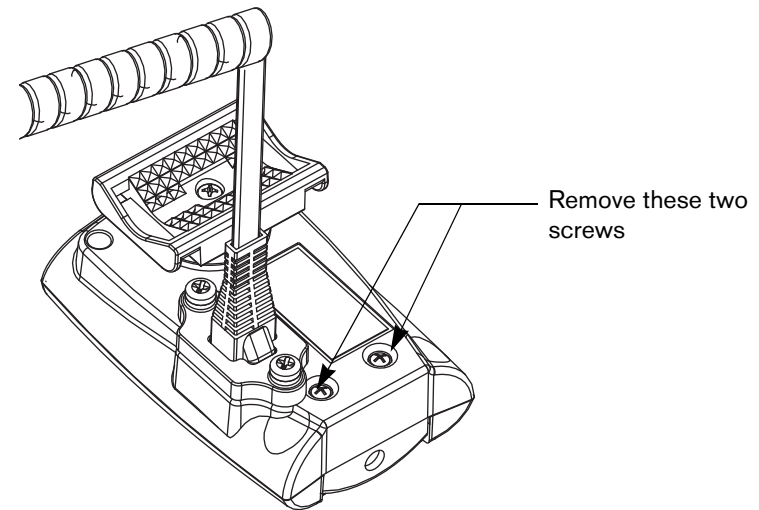

Figure 20: Remove screws holding headphone jack
2. Remove the two screws at the bottom of the receiver with a Phillips-head screwdriver. See Figure 20.